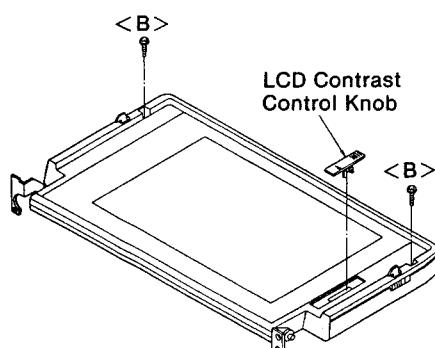

Figure 27
- (3) Remove two screws ($2.6\phi \times 6\text{mm}$) as shown in Figure 27.
- (4) Gently lift up the LCD contrast control knob by holding its both ends.